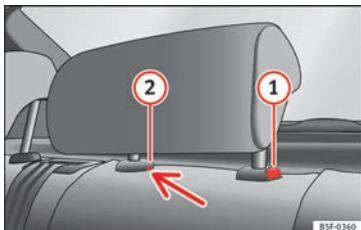

Fig. 129 Rear centre head restraint: release point.
- To set the head restraint lower down, press the ① »» Fig. 129 button and move it downwards.